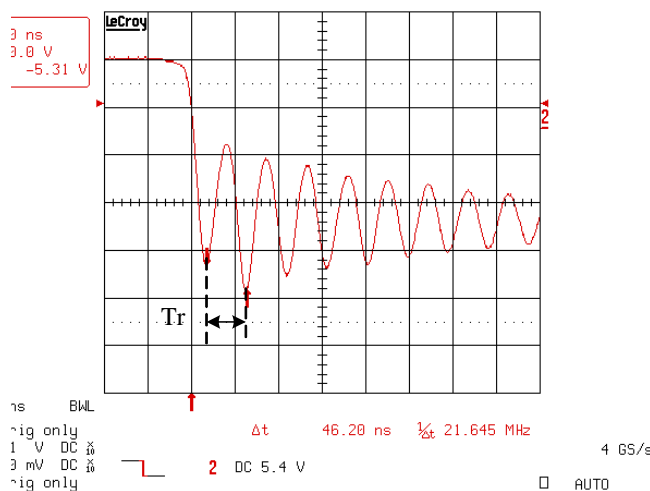

Figure 25. Diode Voltage without C_{dsn}
- (a) Measure the original resonance period (T_r) of the diode voltage without RC filter, as shown in Fig. 25.